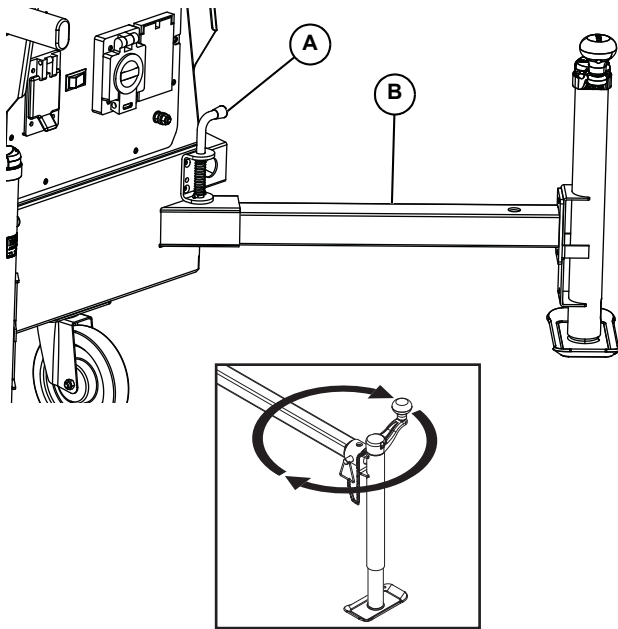

Figure 3-1. Set Up Outriggers and Jacks
- See **Figure 3-1**. Pull the locking pins (A) on the four outriggers (B) and pull each outrigger out until the spring loaded locking pin snaps back into place.